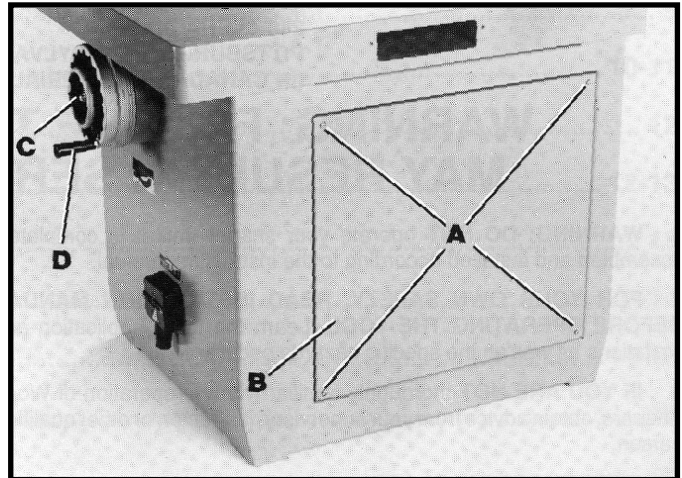

Fig. 7
2. Remove the four screws (A) Fig. 7, and rear panel (B) from the machine.
3. Loosen handwheel lock (C) Fig. 7, and raise spindle by turning spindle raising and lowering handwheel (D) counterclockwise.